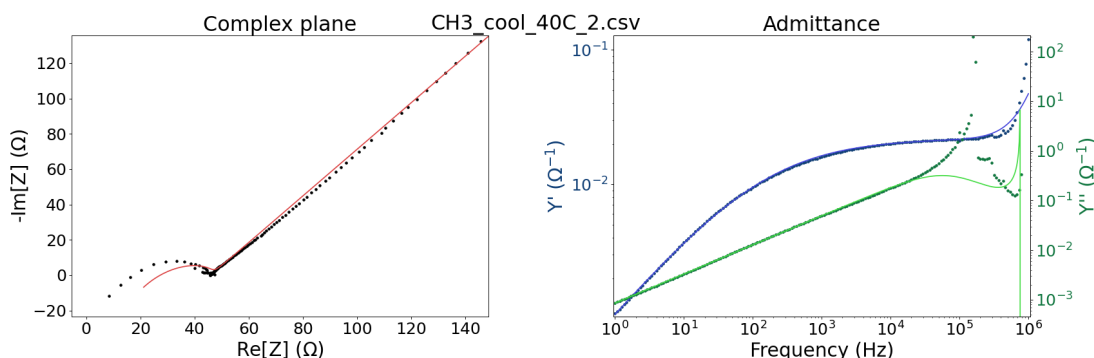

Figure 21: Alternative view of the  $\text{RbOH} \cdot x\text{H}_2\text{O}$  spectrum.
10. To verify that the fit is of good quality, it is worth looking at the result in a few different plot types. For example, changing the right-hand side plot to  $Y'$  and  $Y''$  vs. frequency (Figure 21) reveals a few measurement artifacts around 100 kHz and the apparent breakdown of the model above 600 kHz.